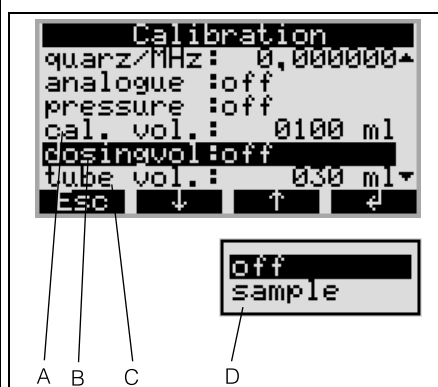

Fig. 13: CALIBRATION menu level
4. In the device controller, call up the CALIBRATION menu level (→ Fig. 13; via SETUP - SERVICE - CALIBRATION).
5. In the CAL.VOL. menu item (→ Fig. 13, item A), enter the desired calibration volume.
6. Select the "DOSING VOL" menu item (→ Fig. 13, item B).
7. Start sampling by selecting the SAMPLE function from the picklist (→ Fig. 13, item D). Wait until the sampling sequence has ended.